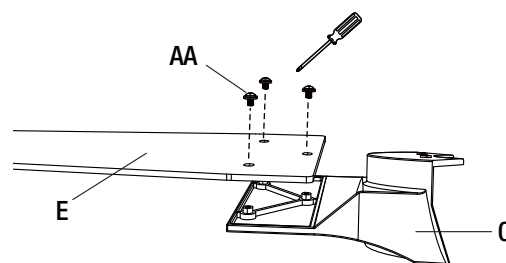

Figure 13
- Mount the blade holders (C) to the fan blades (E) using the blade screws (AA) provided - 3 each per blade (Figure 13).